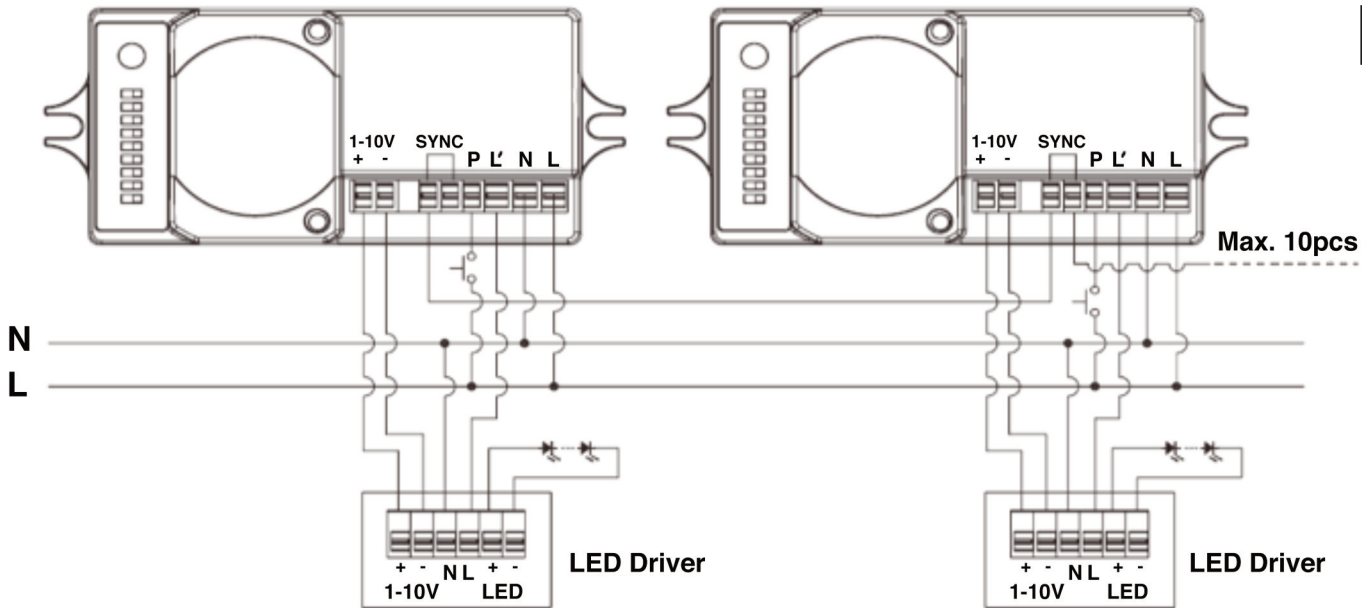

Fig. 2
2. Slide surface mount plate out and up to remove. **(Fig. 2)**
2. Remove white cover plate by unfastening 4 screws. **(Fig. 2)**